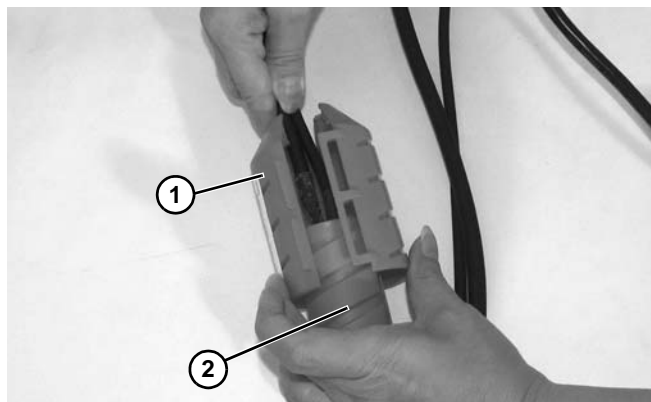

Figure 22
2. Remove outer cord cover (Figure 22, item 1) from inner cord cover (Figure 22, item 2).